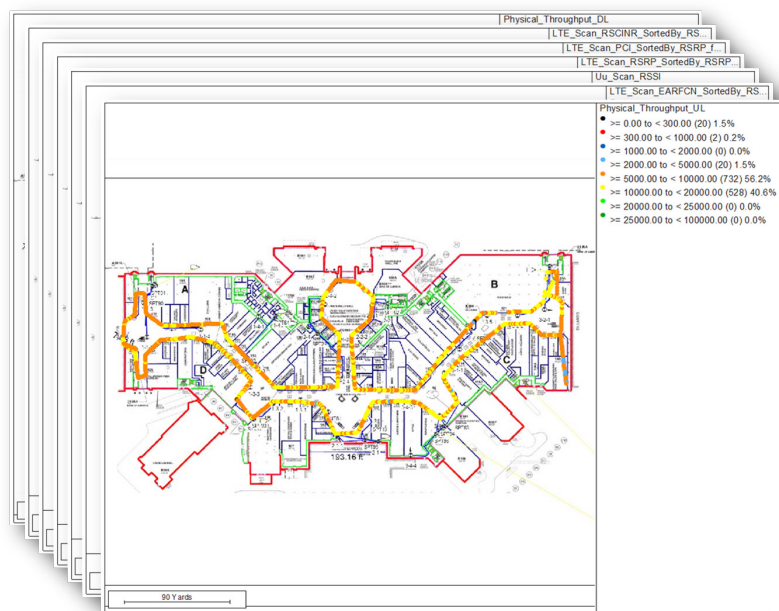

Figure 34. RF measurements
- Record and present the following data for each zone and area, see Figure 34 for examples of RF measurements: